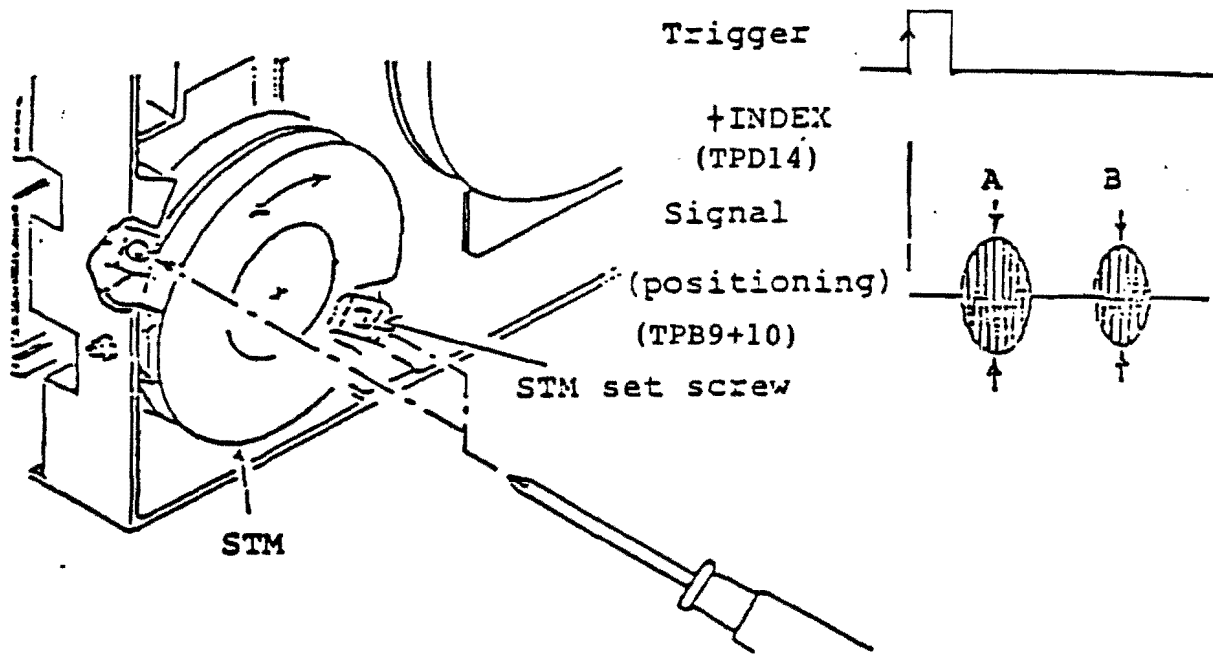

FIGURE 7
2)-4 Seek TK00 to TK32 then read amplitude of each waveform (positioning waveform) at TPA1 + TPA2 under read mode (see Figure 7).